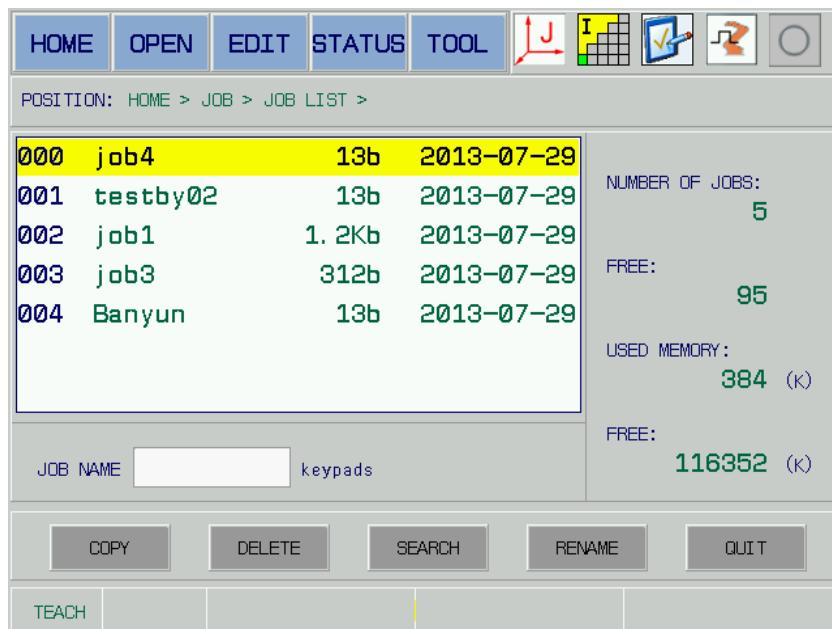

Fig. 5-14
- Shift cursor to the {JOB} menu by [TAB] and left/right direction button, then open the {Job list} submenu matching with the [SELECT] and move the cursor to the {Job list} menu by up/down direction button, lastly open the {Job list} page by [SELECT]; refer to the Fig. 5-14.